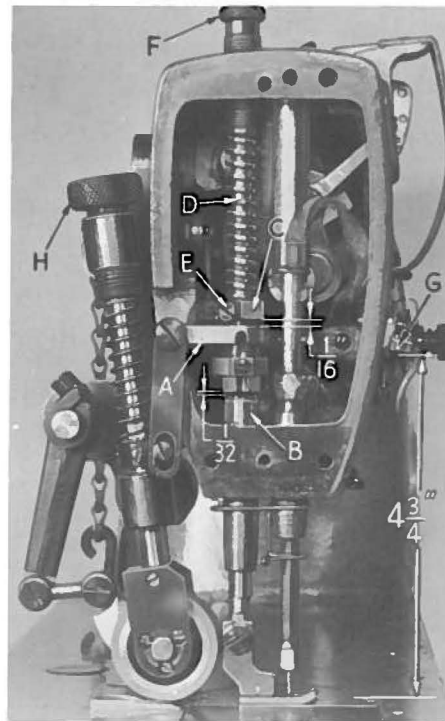

Fig. 16A
The presser bar connection (A, Fig. 16A) should be set so that it is approximately $\frac{1}{32}$ inch above the lower presser bar bushing (B, Fig. 16A). This is accomplished by tipping the machine back against the rest pin, loosening the lock nut (A, Fig. 15 - Cat. No. 121 M) and relocating the stop screw (B) on the lifter lever bell crank (C). By turning the stop screw to the right or left, the proper setting of the presser bar connection is accomplished. Tighten the lock nut (A) to lock the stop screw in place.
When locating the presser bar guide (C, Fig. 16A) the presser foot must rest directly against the throat plate with the feed dog in its lowest position. The guide is set properly when there is a $\frac{1}{16}$ inch space between the bottom of the presser bar guide (C) and the top of presser bar connection (A, Fig. 16A).
Set the thread pull-up bracket (G, Fig. 16A), so that the underside of the wire is $4\frac{3}{4}$ inches above the throat plate (Fig. 16A).
Make sure there is enough pressure on the material going under the puller roller. The puller should cross over seams uniformly, but be sure there is enough pressure to ensure good feeding. Turning the regulator (H, Fig. 16A) clockwise increases and counterclockwise acts the reverse.